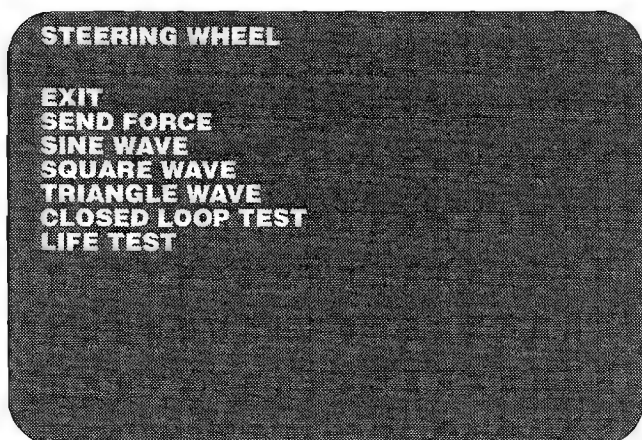

Figure 2-21 Steering Wheel Submenu Screen
- *Steering Wheel* screen submenu is explained below and shown in Figure 2-21.
Use these item if you have a problem with the steering assembly. The screen is shown in Figure 2-21. You will need to read the section *Steering Assembly* in Chapter 3 to find out how to use the tests.